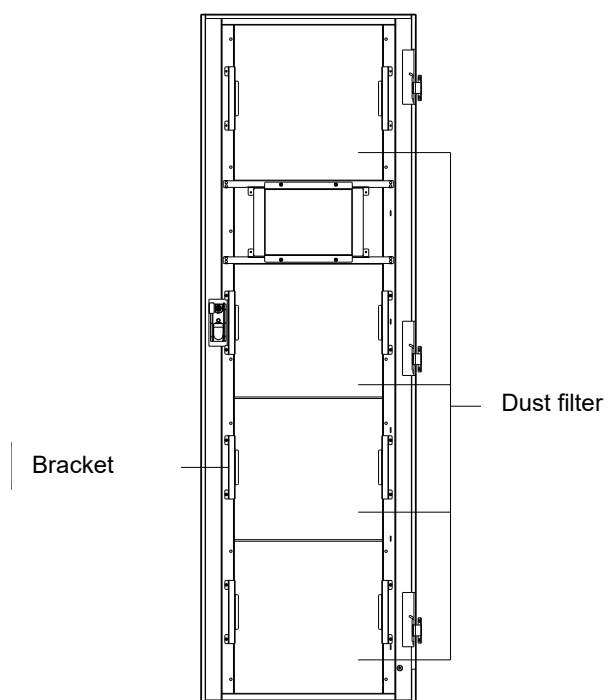

Fig. 6-1 Dust filter on the back side of front door
4. Disconnect Inner Control Neutral cable as Fig.6-1;
16. Connect Inner Control Neutral cable as Fig.6-1
The Inner Control Neutral Cable is located in the right of the maintenance bypass and is protected by the protective board, as is shown in Fig.6-1.
Fig.6-1 the position of Inner Control Neutral cable
As shown in Fig.6-1, there are 3~4 dust filters on the back of UPS' front door, each filter is held in place by a bracket on either side of each filter. The procedure of replacing each filter is as follows: